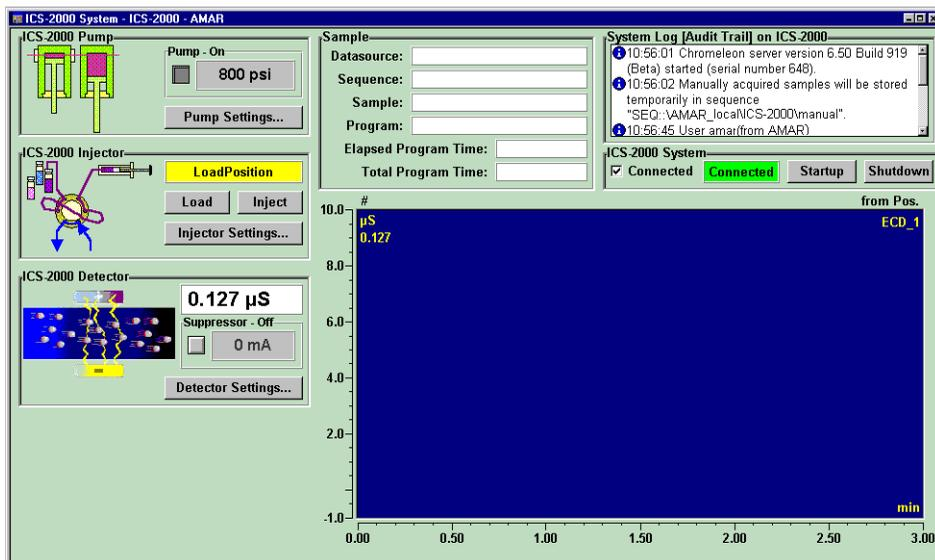

Figure 2-13. ICS-2000 System Control Panel (Graphical)
- System panels (see Figure 2-13) provide a more graphical interface than the traditional style. On these panels, clicking a control often brings up another window in which you enter a value.